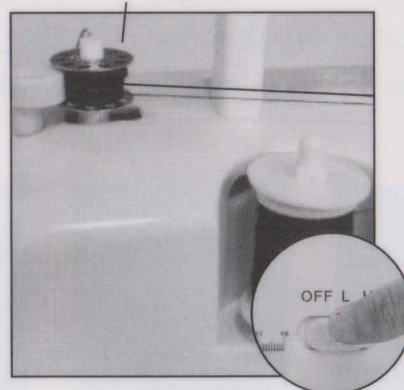

Fig.15
5. Switch on the machine to start winding .(Fig. 15)